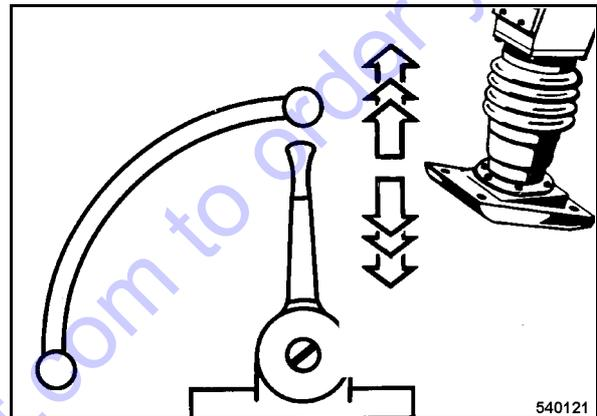

Fig. 19
- Set the throttle lever (Fig. 19) to "MAX"-position.